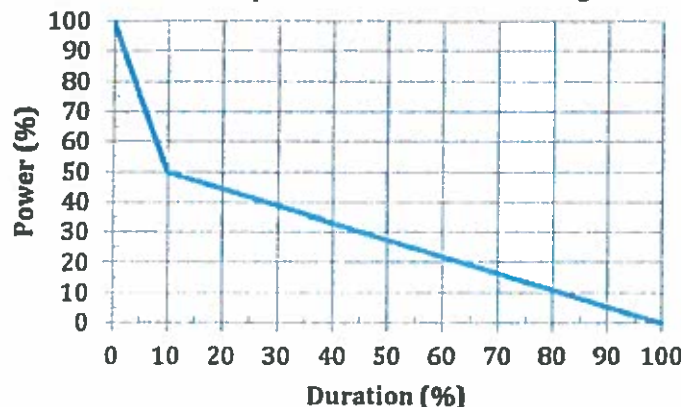

Figure 5.2: Wind farm production duration curve duration (100% = 8760h).
- b) Energy production of the wind farm is variable and changes in time. The relative annual wind farm production duration curve is given in Figure 5.2.
If the wind farm rating is 5 MW (power 100% in Figure 5.2) estimate the annual curtailment of wind energy for different active management techniques: